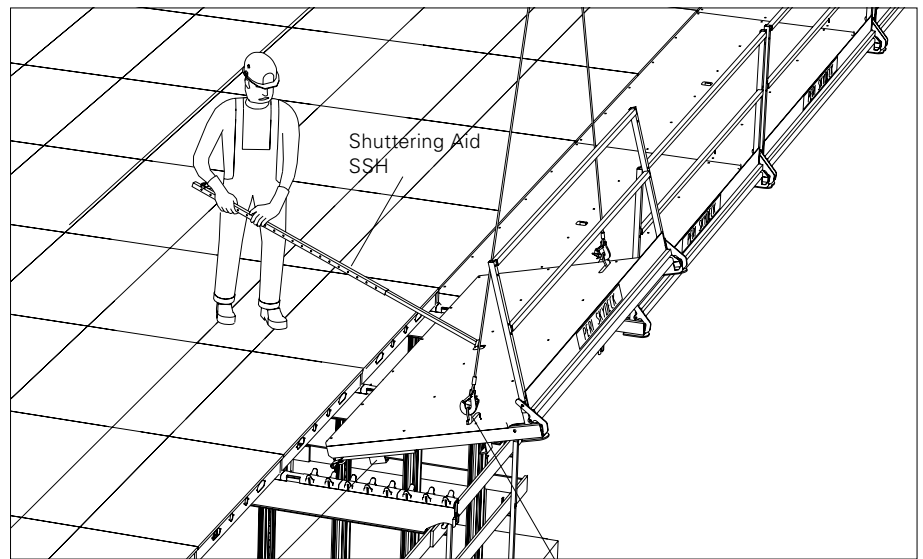

Fig. A9.12
1. With the help of the Erection Aid SSH, access the recess of the platform decking and pull the platform out from its safe position. (Fig. A9.12)